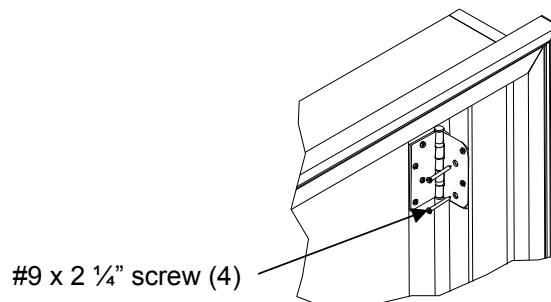

Figure 3
- 3** For doors such as single and french doors that are hinged next to the wall opening, predrill 7/64" holes and install 2 screws at the location shown in Figure 3 on the top hinge and 1 each on the middle and bottom hinge (screws included in installation kit).